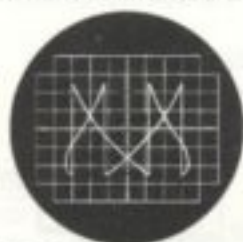

Fig. 8 Lissajous pattern
5. Produce a Lissajous pattern on oscilloscope and adjust VR₂ to make the pattern still (See Fig. 8).